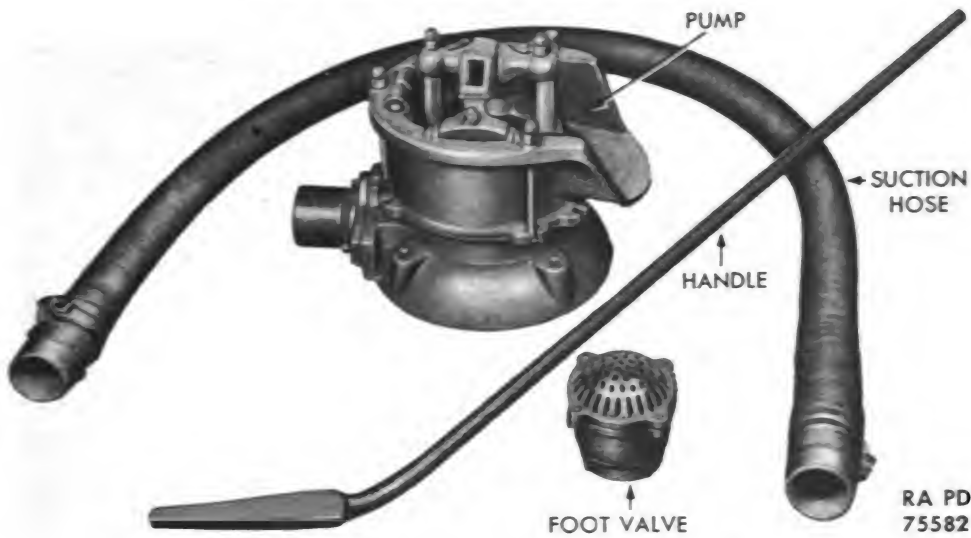

Figure 73 – Hand-operated Diaphragm Pump
a. **Description** (fig. 73). Two large iron castings, base and head, compose the body of the hand-operated diaphragm pump. Between the two castings, a rubber diaphragm is secured. A cast iron diaphragm plate is bolted to the diaphragm. It serves as a base for the discharge valve and as a means of connecting the operating linkage to the diaphragm. Two flap-type valves, constructed of cast iron and rubber, are used. The intake valve is located in the suction hose fitting attached to the base. The discharge valve is located in the center of the diaphragm.